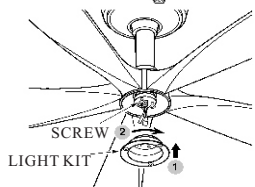
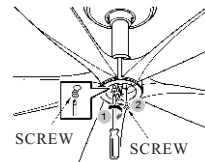

FIG. 13
FIG.14
2. Attach the light kit adapter to fan adapter by placing key slots over the 2 loosened screws, turn the light kit adapter until it get the narrow end of key slots and have the round hole align with the round hole on fan adapter. (see fig.13) Tighten the screws. (see fig.14)